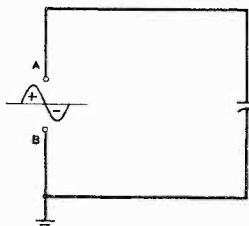

Fig. 1. AC circuit with pure capacitance.
THE behavior of inductors in AC circuits was discussed in the preceding chapter. Now let us turn our attention to capacitors, and how they react to AC sine waves. Fig. 1 shows a capacitor connected directly across an AC voltage source. Terminal A is alternately positive and negative with respect
It has been shown that the capacitor charges to the peak value of the source voltage, and then discharges, twice during each cycle. In chapter VII¹ the formula relating charge in coulombs (Q), potential in volts (E), and capacitance in farads (C) was given as $E = Q/C$. This is easily rearranged as $Q = CE$. Since the current in the circuit of Fig. 1 is actually the rate of charge flow for the capacitor, and the amplitude of the charge flow is the product of C and E , then clearly the current is directly proportional to both C and E . With larger capacitors, more current will flow in the circuit; with higher voltages, more current will flow also. We know, too, that current is the time rate of charge flow. During each cycle the same